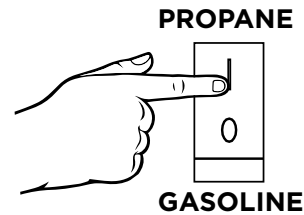

Figure 11 - Fuel Select - Gasoline
8. Make sure fuel select switch is on **Propane** (see Figure 11 below).